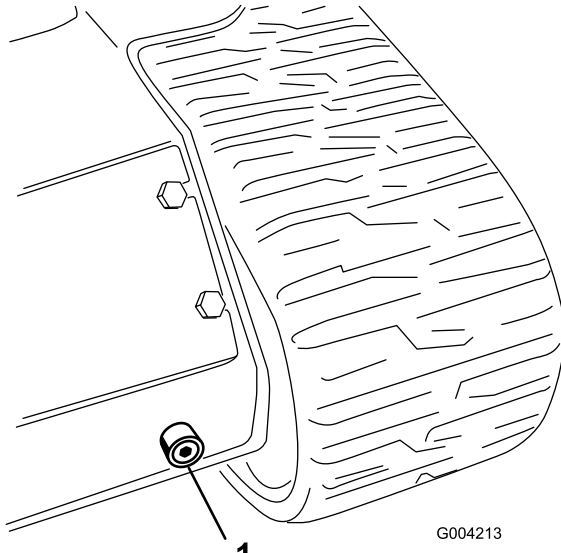

Figure 57
- Place a large drain pan (capable of holding 15 US gallons) under the drain plug on the front of the traction unit (Figure 57).
- Remove the drain plug and allow the oil to drain into the pan (Figure 57).